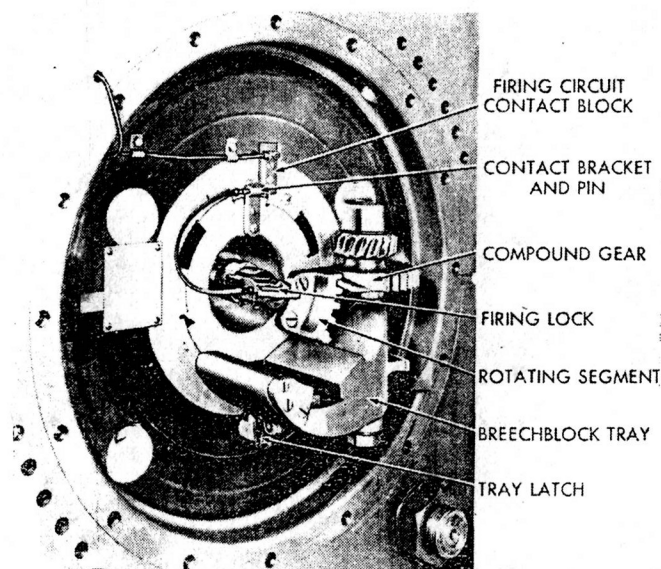

FIGURE 8.—Breechblock in closed position.
■ 21. CLOSING BREECH.—No. 1 turns the breech operating crank handle clockwise until the breechblock is locked tight in the breech recess (fig. 8).